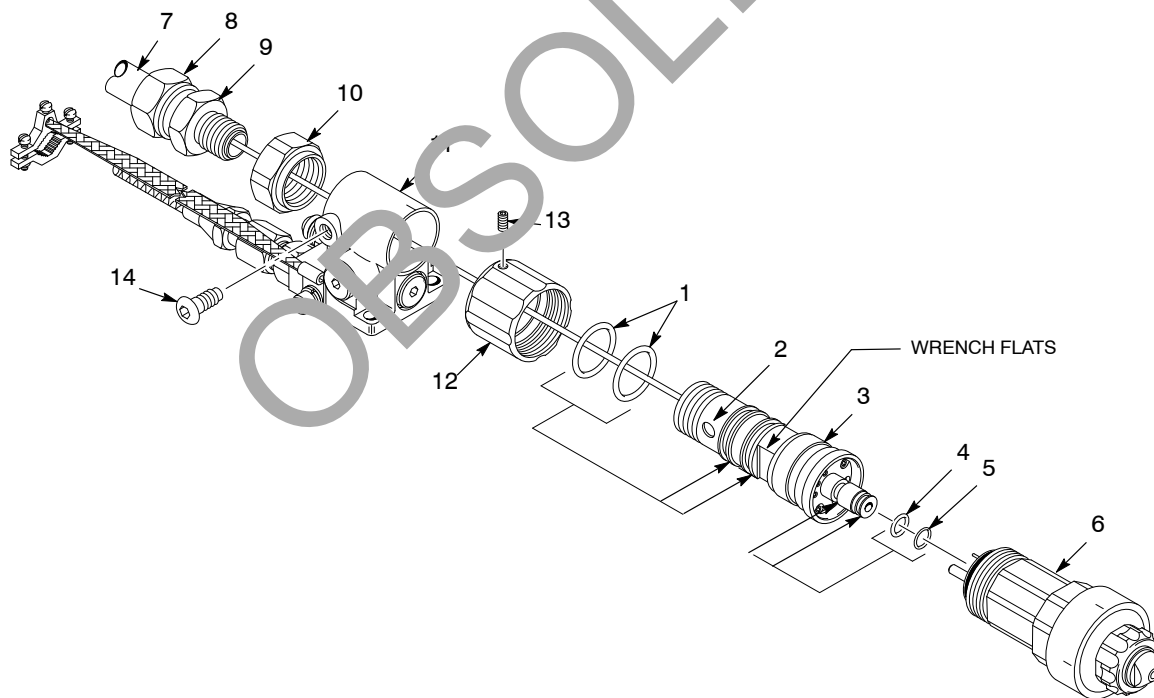

Figure 6 Upper Manifold O-ring Replacement
See Figure 6.
1. See Figure 6. Lubricate the new O-rings (1, 4, 5) with petroleum jelly and install them onto the upper manifold (3).
2. Slide the gun module nut (12) toward the front of the upper manifold until it hits the manifold shoulder.